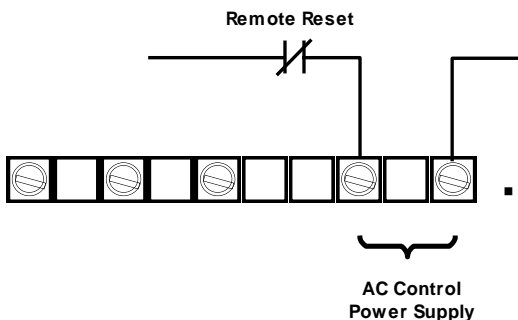

Figure 5.4.5.b
**Example: Figure 5.4.5**
Since removing control power can reset most trips, remote reset can be accomplished in the same way. A N.C. remote contact (or push-button) can be placed in the control power supply to A1 or A2 and opened to facilitate a trip reset. See figure 5.4.5.b for a suggested connection.